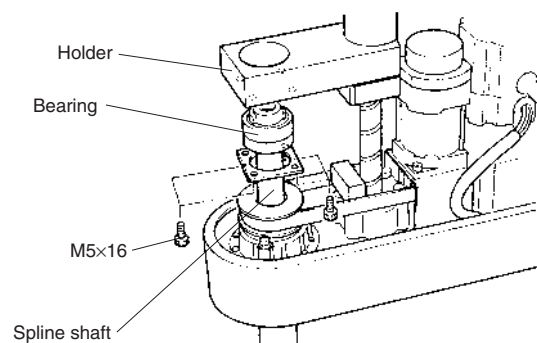

Fig. 5-28
- 6) Remove the bolts (M5×16L, 4 pieces) securing the bearing to the upper end of the spline and remove the spline and bearing from the holder. (See Fig. 5-28.)
- 22) Insert the spline and bearing through the holder and secure them with the bolts you removed earlier (M5×16L, 4 pieces). (See Fig. 5-28.)